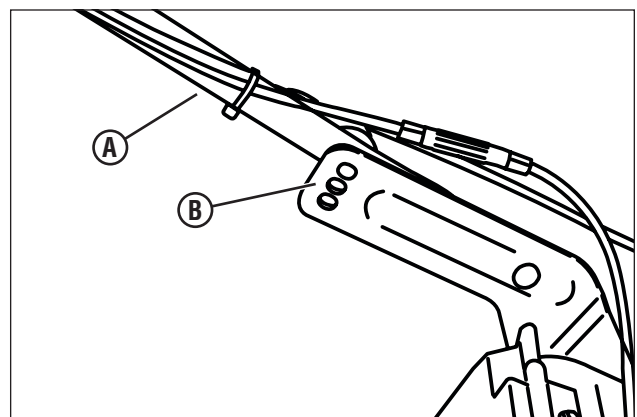

Figure 5: Adjusting the handle height
1. Remove the knobs, washers and bolts securing the lower handle **(A, Figure 5)** to the mounting brackets **(B)**.